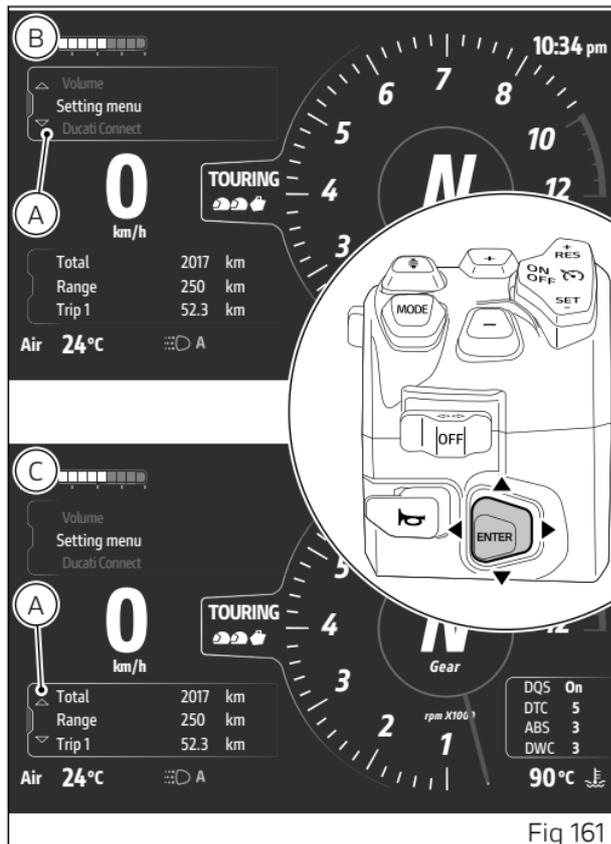

Fig 161
When one of the menus is selected, it is indicated with the active frame (A, Fig 161) and the joystick is used for menu navigation and interaction.
- if "Interactive menu" is currently selected, hold the joystick pressed in position ▼ for a long time to move the selection to "Info display" (C, Fig 161);
(B, Fig 161).